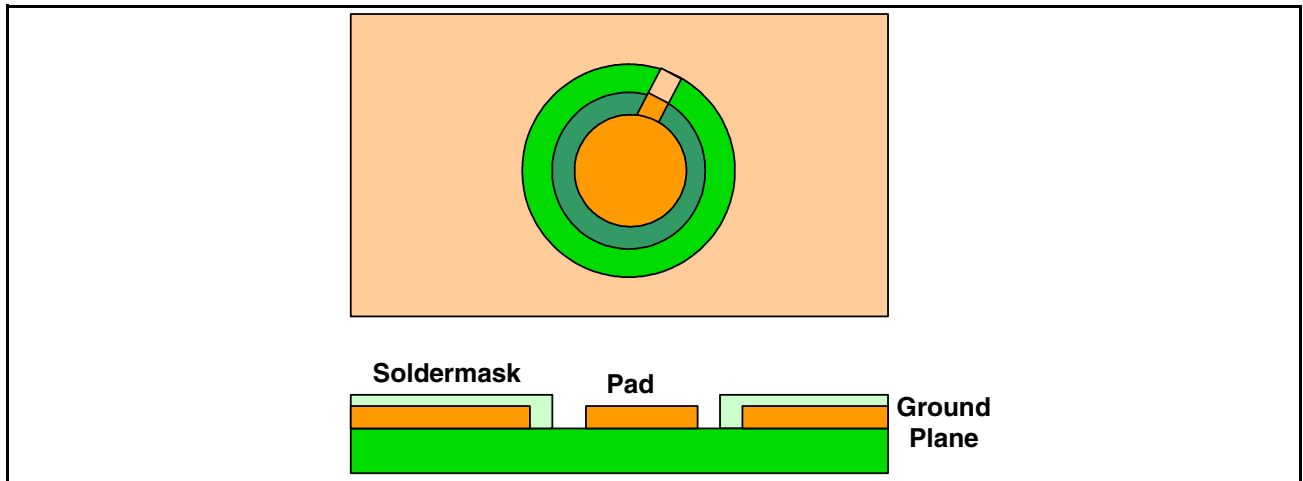

Figure 10: Recommended Pad/Trace Layout (NSMD pad shown)
- 1 It is recommended that the bump pads be connected to planes or vias using only a single trace (Figure 10). The pad size and trace width should follow the recommendations shown in Table 3 on page 5.